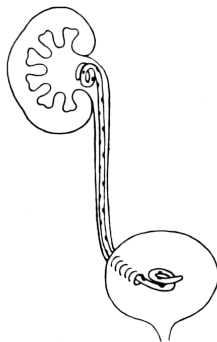

Fig. 2
4. Completely remove the positioner and the wire guide (**Fig. 2**).